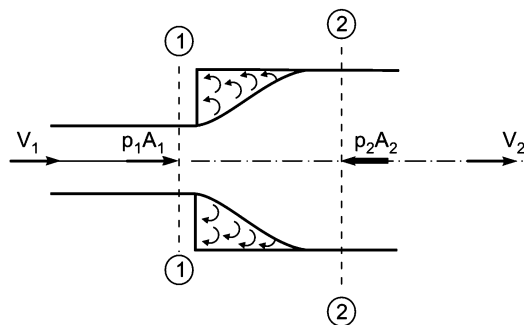

Fig. 11.1 Sudden enlargement.
11.4.1 Loss of Head Due to Sudden Enlargement. Consider a liquid flowing through a pipe which has sudden enlargement as shown in Fig. 11.1. Consider two sections (1)-(1) and (2)-(2) before and after the enlargement.
Due to sudden change of diameter of the pipe from D_1 to D_2 , the liquid flowing from the smaller pipe is not able to follow the abrupt change of the boundary. Thus the flow separates from the boundary and turbulent eddies are formed as shown in Fig. 11.1. The loss of head (or energy) takes place due to the formation of these eddies.